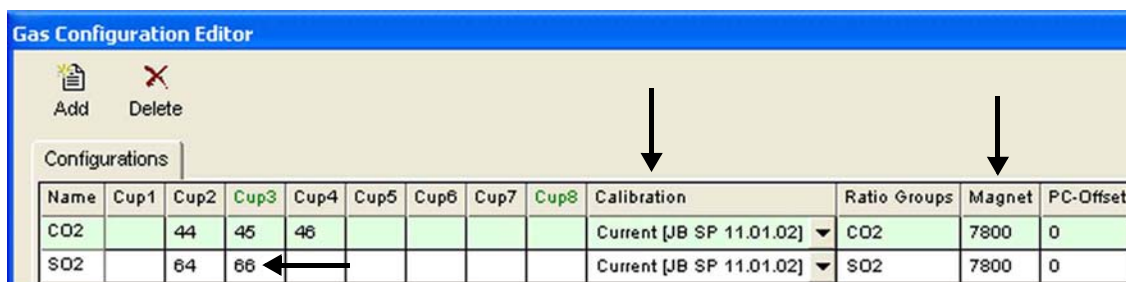

Figure 7-6. Creating new gas configuration
The new gas configuration SO₂ appears in the list as a row of its own. See Figure 7-6.
10. In the **Calibration** column of Figure 7-6 select your current calibration file.
Note Figure 7-6 shows a common cup configuration as used in most Delta mass spectrometers, that is universal triple collector. If you have a special cup configuration, the respective masses will be collected in other cups! ▲
11. In Figure 7-6 type in the correct masses (64 and 66 replace for example 44, 45 and 46) to the appropriate cups specific for your IRMS.